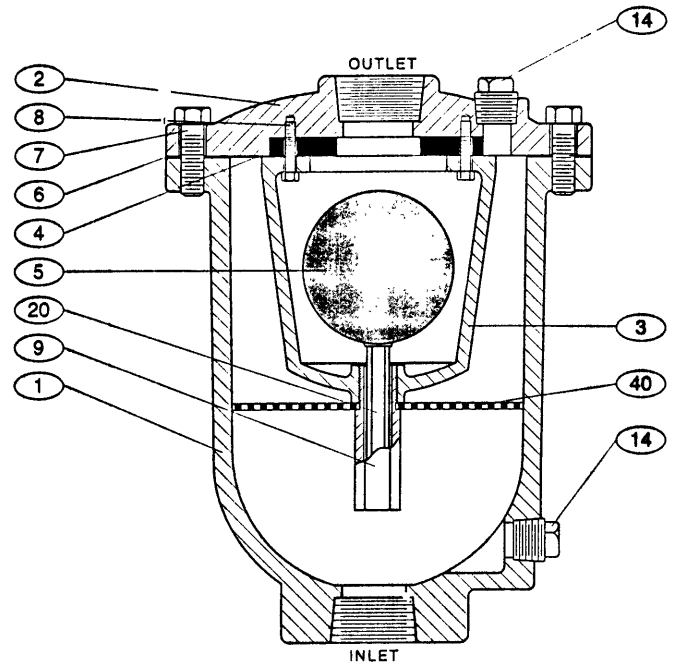

FIGURE 2. ½"-3" WELL SERVICE AIR VALVE
The Well Service Air Valve body and cover are cast iron. All internal components are stainless steel with the exception of the valve seat which is resilient. The float (5) and float guide (20) are the only moving parts assuring long life with minimal maintenance. The general details of construction are illustrated in Figure 2. The body (1) is threaded for connection to the pipeline. The seat (4) is retained in the cast cover (2). The seat (4) is retained by a baffle (3).
The valve can be disassembled without removing it from the pipeline. Or for convenience, the valve can be removed from the line. All work on the valve should be performed by a skilled mechanic with proper tools. Refer to Figure 2.